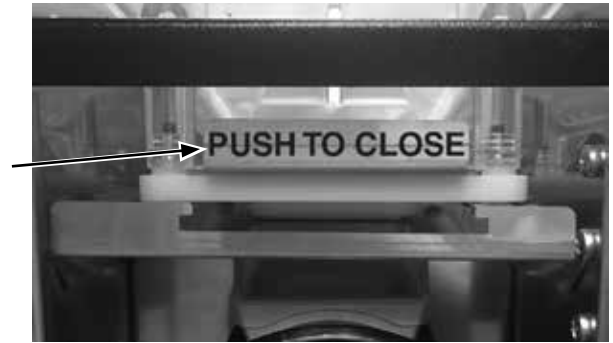

Figure 7
9. Remove the bean hopper from the parts box. Align the bean hopper so that the collar on the bottom of the bean hopper will engage the opening in the grinder as shown in Figure 7.